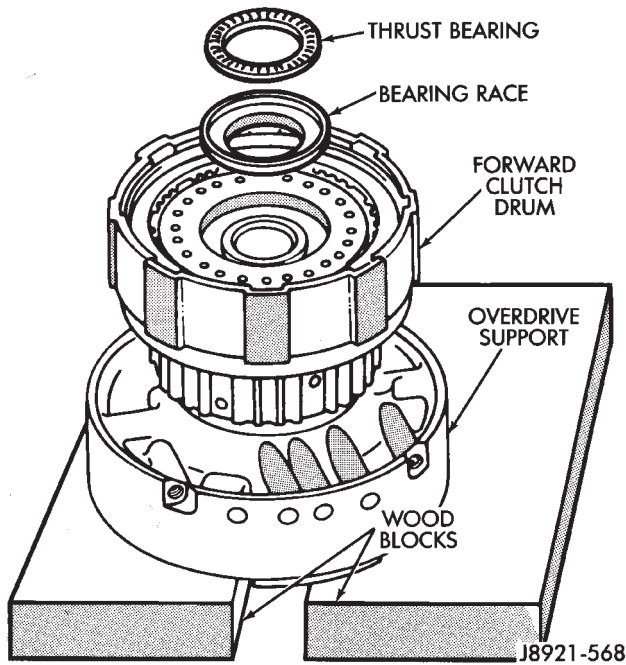

Fig. 2 Positioning Drum And Support On Wood Blocks
- (1) Check clutch piston stroke as outlined in following steps.
- (2) Position overdrive support on wood blocks and mount forward clutch drum on support (Fig. 2).
- (3) Remove bearing and race from forward clutch drum (Fig. 2).